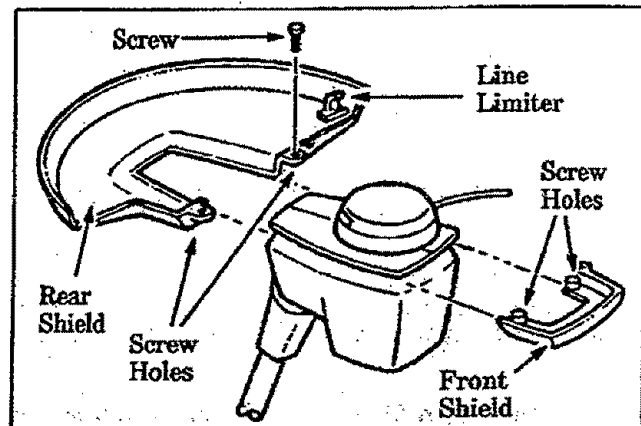

Figure 3
Failure to install the shield in the position shown in Figure 3 can result in serious injury to the operator. Carefully follow assembly instructions when attaching the shield to the unit. Figure 3.
1. Slide the Rear Shield and the Front Shield into the grooves on the trimmer housing. Figure 3.
2. Align the screw holes in the Rear Shield with the screw holes in the Front Shield. Figure 3.